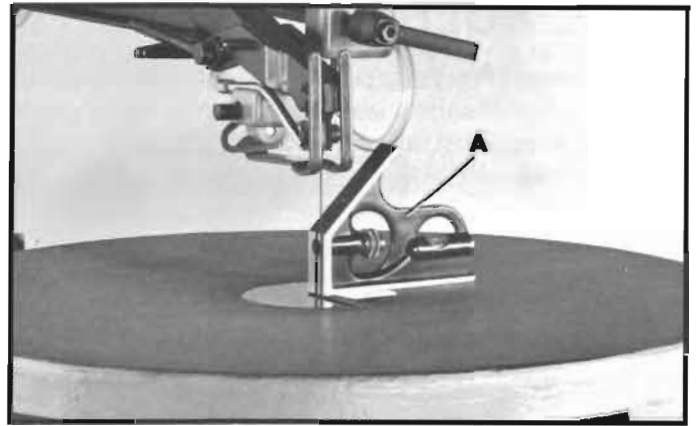

Fig. 21
2. Using a square (A) Fig. 21, check to see if the table is 90 degrees to the saw blade, as shown.